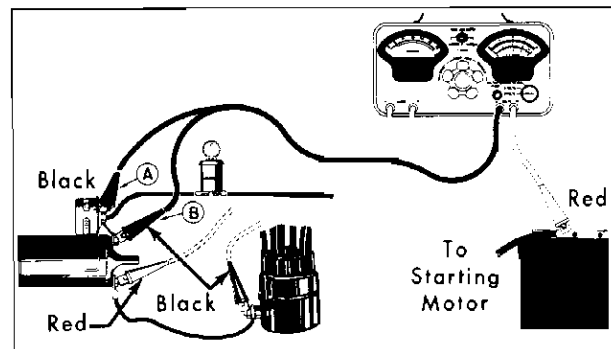

Fig. 11-21 Ignition Primary Circuit Resistance Test
2. Connect test leads as shown in Fig. 11-21.
8. Remove voltmeter leads and place them across the primary wire from the coil to the distributor as shown by dotted leads in Fig. 11-21. Voltmeter should read less than .1 volt.